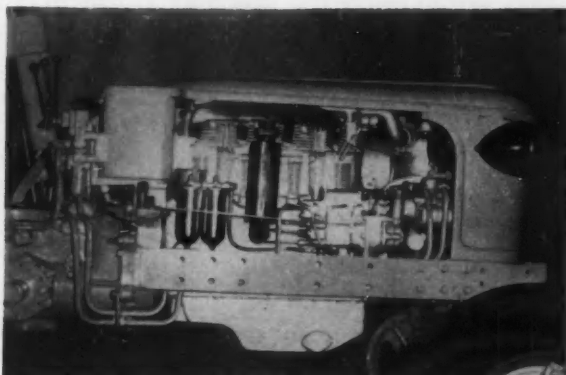

Fig. 1—Recently exhibited Soviet 4-cyl, 40 hp, aircooled tractor engine.
2. . . . What appears to be a model DT-28 chassis, powered with a 4-cyl, aircooled diesel engine of the same series as above, has been exhibited. On the basis of 10 hp per cylinder at 1750 rpm, this will increase the power of this successor of the DT-28 from 32 hp to 40 hp. This engine is shown in Fig. 1.